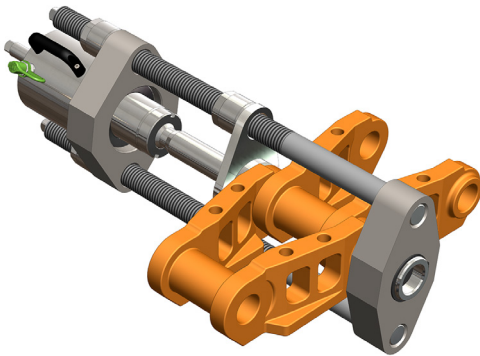

fig. 23
1. Pump until the piston reaches its full stroke, fig 23.